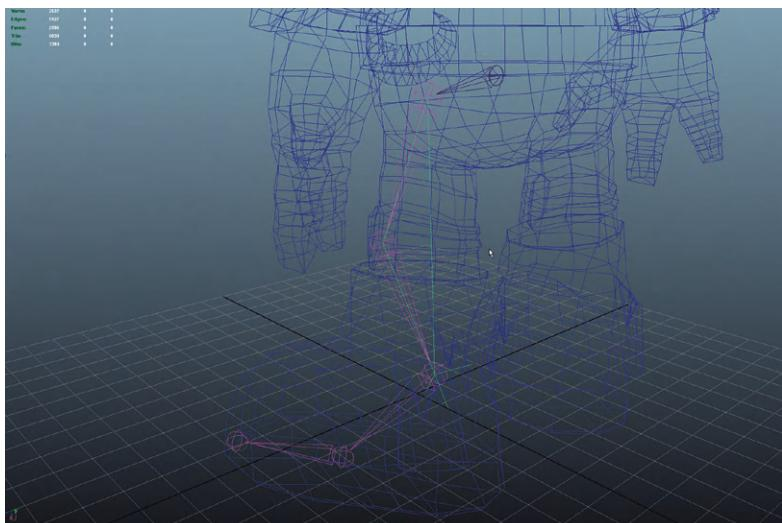

FIG 8.8 Creating an IK chain with the IK Handle Tool.
Step 13: Create an IK chain between the L_Hip and L_Ankle. To do this, choose Animation|Skeleton > IK Handle Tool. To use the tool, in a View Panel, click on the L_Hip joint to start the IK chain and then click second time on the L_Ankle joint (Fig. 8.8). Rename the new ikHandle that will appear in the Outliner to L_AnkleIK.